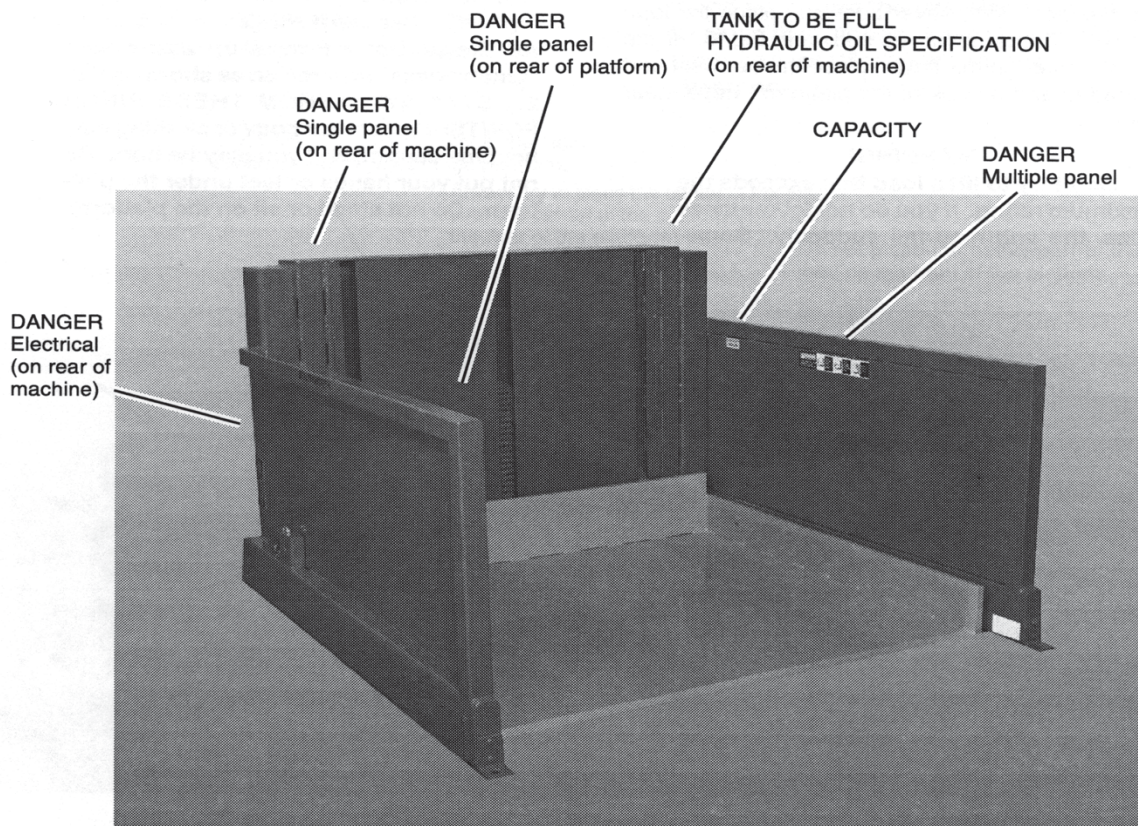

Fig. 1 Safety Labels
5. Figure 1 shows the safety labels on this unit. Check to be sure all of the labels are in place.
operator. If the labels are worn or missing, or have been painted over, REPLACE THEM before releasing the lift for operation. Fig. 1 shows the safety markings on this unit.